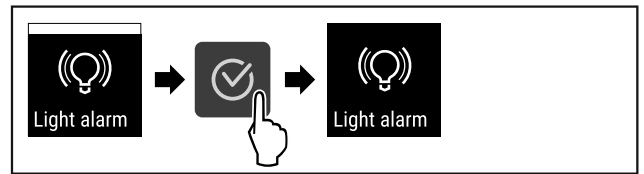

Fig. 119
- ▶ Complete steps (see Fig. 119) .